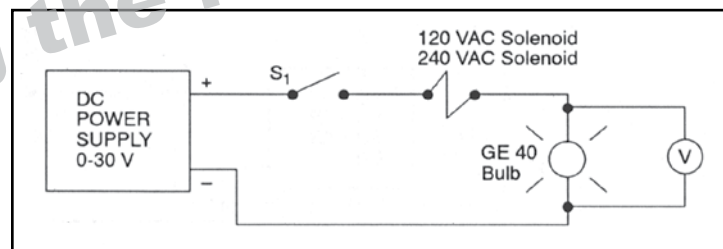

Fig. 3-6. Inductance in a DC circuit. Courtesy of Delmar Learning.
2. Connect the circuit shown in *Figure 3-6* using the 120-VAC solenoid coil with the iron core removed.